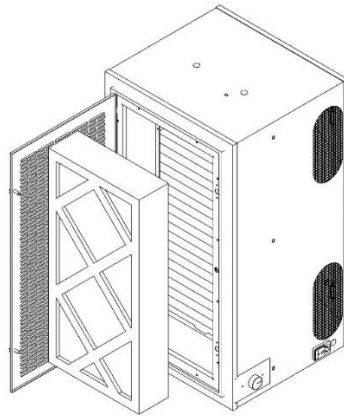

Figure 25
3.) Remove pre-filter. See Figure 25.
8.) Reinsert pre-filter. Ensure that arrows on filter match the direction of air flow. See Figure 25.